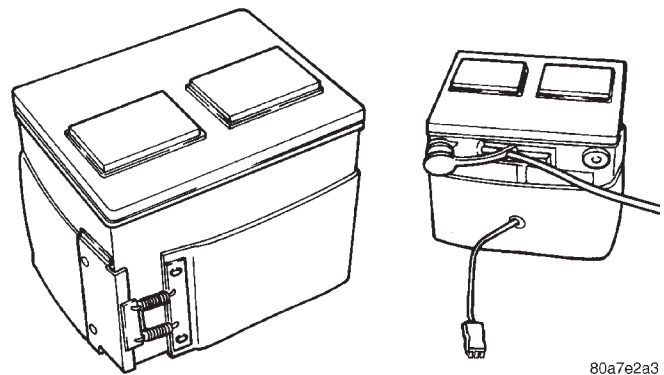

Fig. 10 Battery with Blanket Heater
(2) Disconnect battery negative cable from remote negative terminal on left shock tower.
(3) Turn steering wheel to the **FULL LEFT** position.
(4) Twist the four plastic screws one quarter turn to release shield.
(5) Remove shield.
(6) Disconnect battery blanket heater cord, if equipped (Fig. 10).
(7) Remove battery negative cable followed by the battery positive cable.
(8) Remove bolt attaching the battery strap to the battery hold down bracket. Remove hold down bracket bolt.
(9) Slide battery to rear of tray and lift over lip. Use care not to tip battery so that the acid will not spill out.
(10) Remove battery.
(11) Remove battery blanket heater if equipped (Fig. 10).